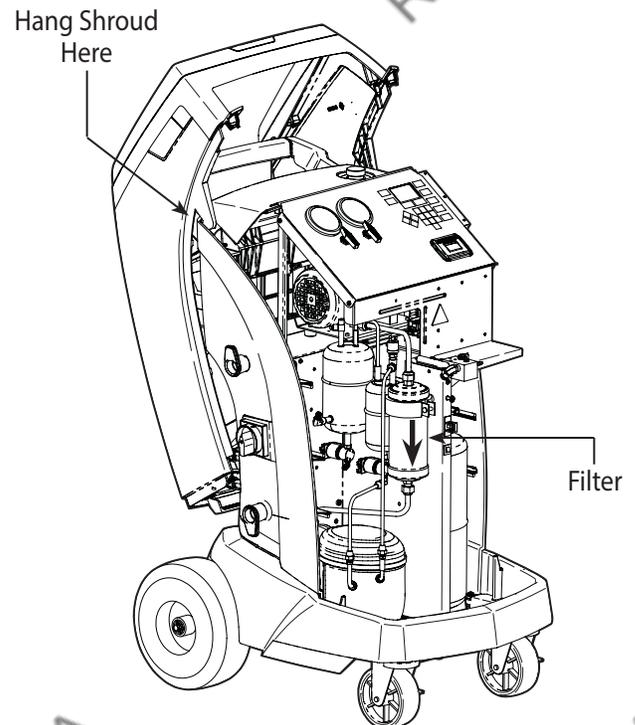

Figure 12
3. Hang the shroud on the back of the machine as shown in Figure 12.